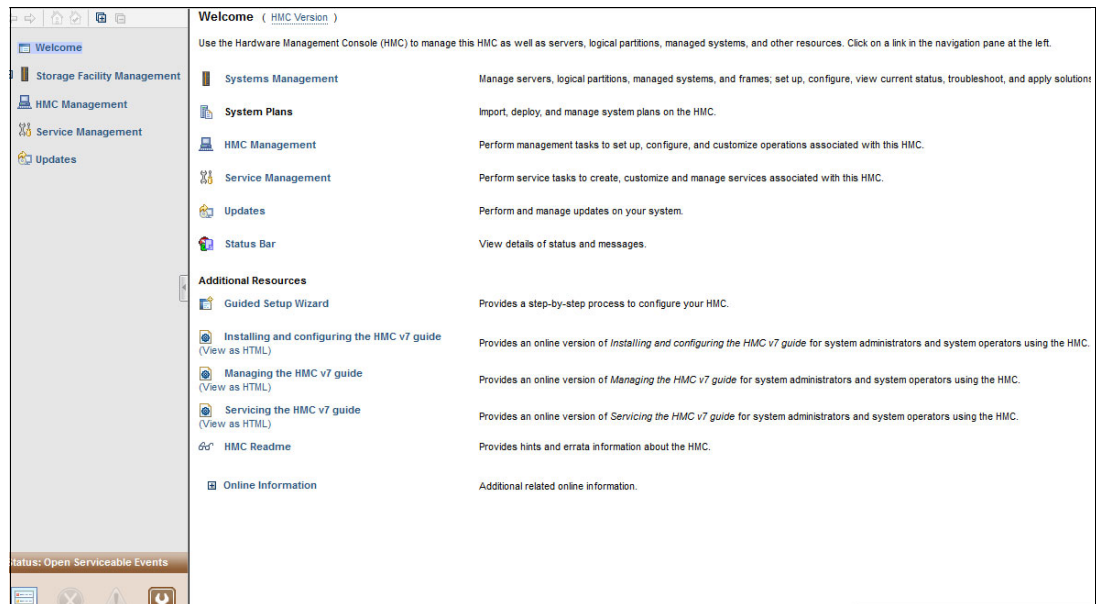

Figure 8-9 Web UI Welcome window
1. Start and log in to the Web UI. For more information, see 8.2.6 Web-based User Interface on page 228. The MC Welcome window opens, as shown in Figure 8-9.
1. Log into the Web UI. For more information, see 8.2.6 Web-based User Interface on page 228. The MC Welcome window opens as shown in Figure 8-9 Web UI Welcome window on page 233.